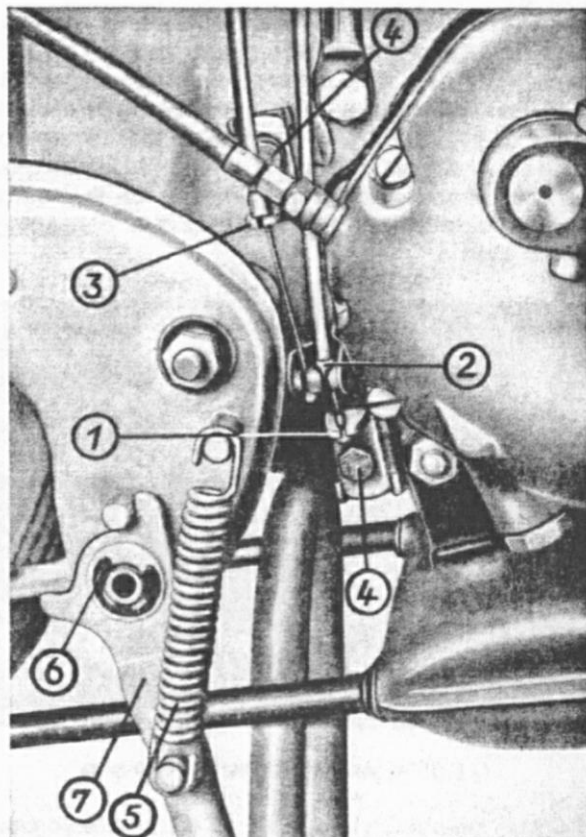

Fig. 19: Gearshift adjustment
- b) Gearshift cable: first slip the cable end fitted with a rimless ferrule (Fig. 19/2) through the larger bore of the gearshift lever and hook its nipple to the lower adjusting angle (Fig. 19/1). Then put the second cable end into the upper adjusting angle (Fig. 19/3), pull the clutch lever, and turn the gearshift lever till the nipple can be hooked in.
Adjustment: both adjusting angles must be loose, both gearshift twist grip and gearshift lever must be in their neutral positions, the adjusting nuts must be loose. Then tension and tighten adjusting angles by means of the locking nuts (Fig. 19/4). Now, while rotating the rear wheel, try to shift gears from the various speeds to neutral. If, in doing so, it proves necessary to turn the twist grip beyond its indicated neutral position to disengage the gears completely, this can be corrected by means of the adjusting nuts.